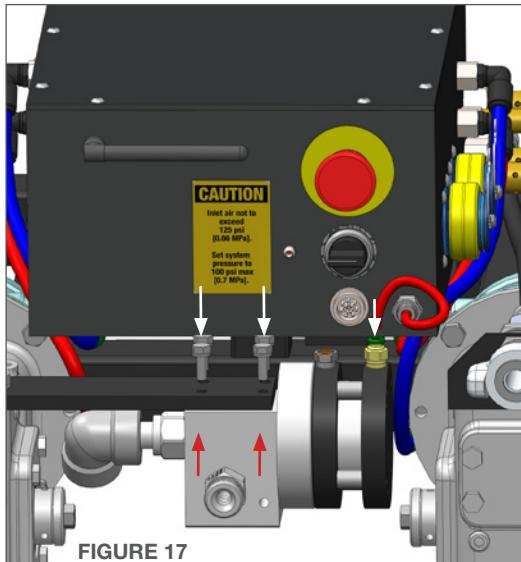

FIGURE 17
17. Install the four retained 1/4" hex bolts and washers through the base plate into the dump valve. Depress the presslock fitting to insert the red tubing. Pull on the tubing to ensure it is securely fastened. (**Figure 17**)